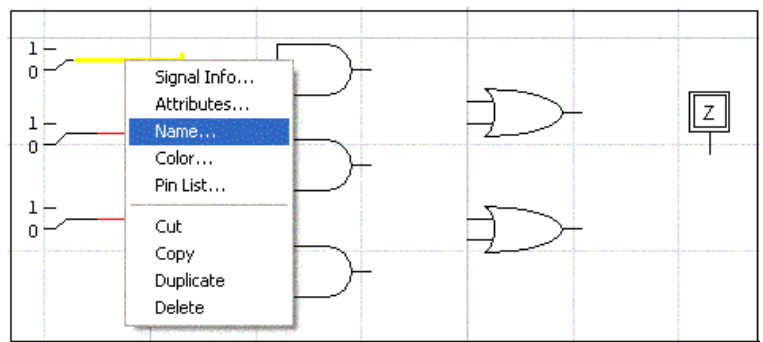

Fig. 7
- Select Name from the box that appears, as in Fig. 7.